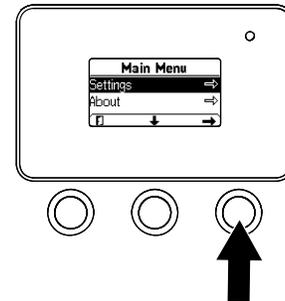

Figure 13
- From the MAIN MENU, use the center button to scroll down to the SETTINGS MENU and press the right button (Figure 13).